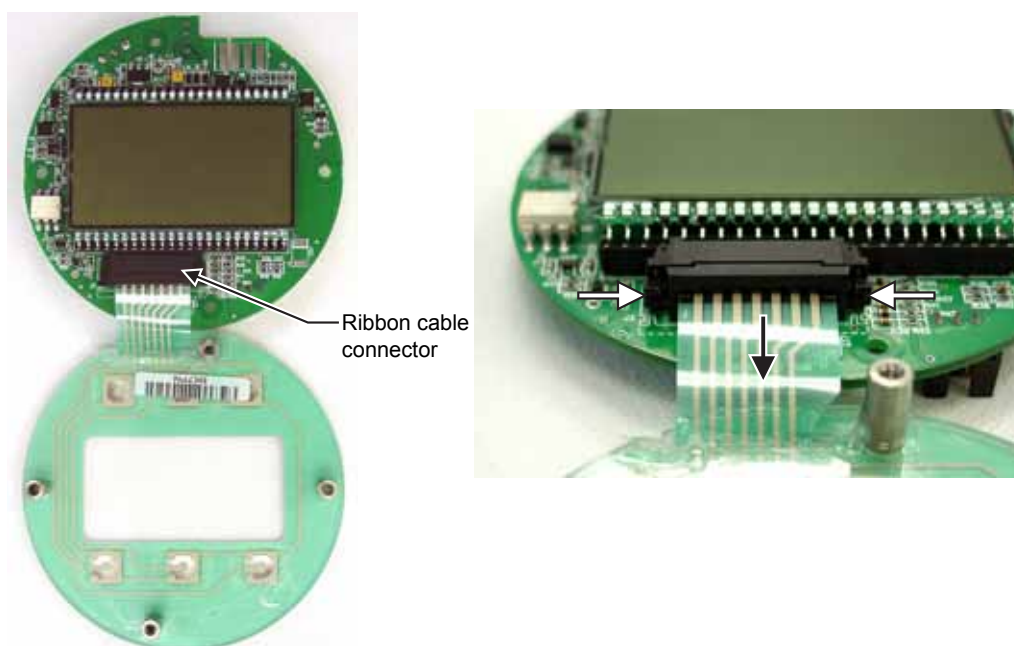

Figure 6.8—To release the ribbon cable from the connector, press in on the side tabs of the J7 connector (white arrows) and gently pull forward (black arrow).
13. Remove the keypad ribbon cable from the J7 connector on the LCD side of the main board by pressing in on the sides of the black plastic clip and pulling gently on the clip. Do not pull on the ribbon cable; the cable will release freely when the clip opens (Figure 6.8).